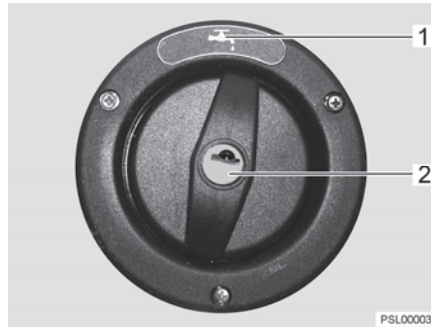

Fig. 126 Cap for the drinking water filler neck
The drinking water filler neck is indicated by the symbol "🔑" (Fig. 126,1). The cap is opened and closed using the key for the external flap locks.
- Insert key into locking cylinder (Fig. 126,2) and turn a quarter turn in an anticlockwise direction.
- Open drinking water filler neck (Fig. 126).